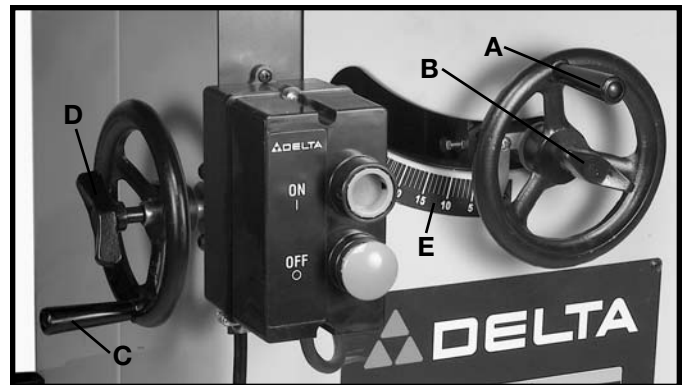

Fig. 41
The saw blade is raised and lowered with the front handwheel (A) Fig. 41. With the exception of hollow ground blades, the blade should be raised 1/8" to 1/4" above the top surface of the material being cut. With hollow ground blades, the blade should be raised the maximum to provide greater clearance. To raise the saw blade, loosen lock knob (B) Fig. 41, and turn the handwheel (A), clockwise. To lower the saw blade, turn handwheel (A) counterclockwise.
The saw blade is locked at any height by turning the lock knob (B) Fig. 41, clockwise. Due to the wedge action of this locking device, only a small amount of force is required to lock the blade raising mechanism securely. Any added force merely puts unnecessary strain on the locking device. Limit stops for raising or lowering are permanently built into the mechanism and need no further adjustment.
To tilt the saw blade to the desired angle, loosen lock knob (D) Fig. 41, and turn handwheel (C). A pointer indicates the angle of tilt on scale (E), which is marked in one-degree increments. To lock the saw blade in the desired angle of tilt, tighten lock knob (D).